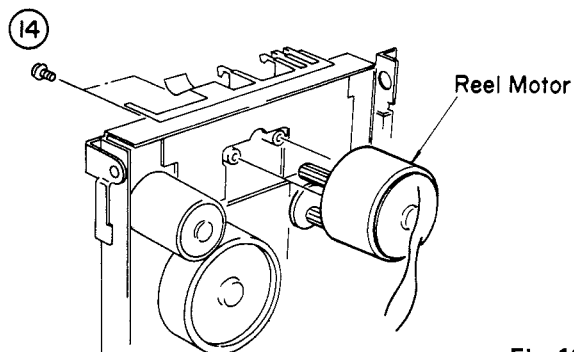

Fig. 10
- Remove 2 screws (14) in Fig. 10 and replace the reel motor.